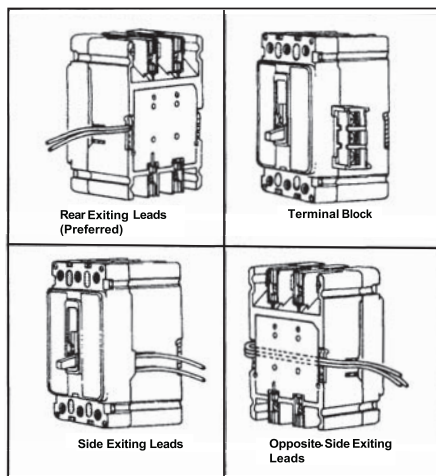

Fig. 2-2. Accessory Wiring Options.
- 2-5. Route wiring to meet installation requirements (see Fig. 2-2).